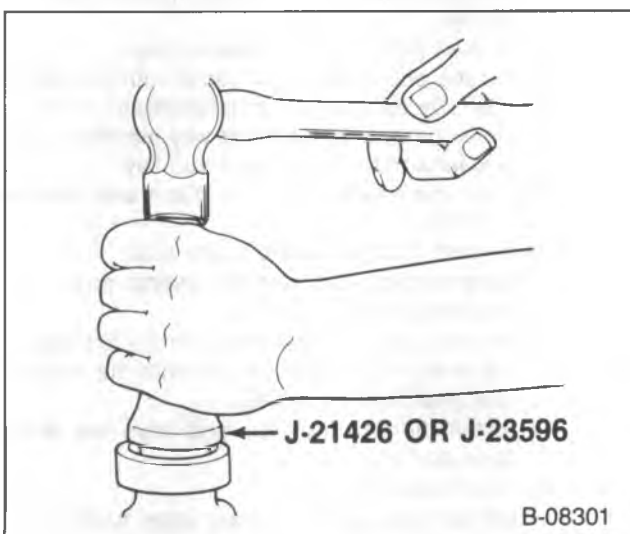

Figure 13—Installing the Rear Extension Bushing and Seal
1. New bushing (478) if needed, using a suitable tool.
2. Locking compound on the outside of a new seal (421).
3. New seal (421) using J 21426 (figure 13).